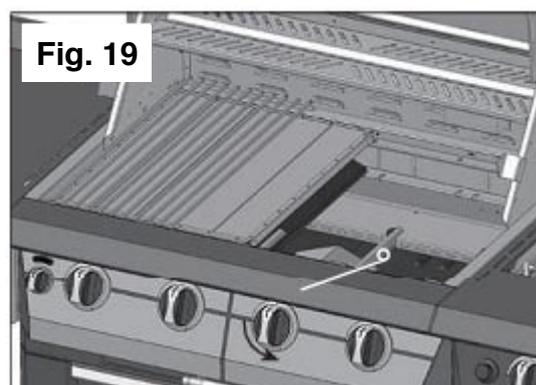

Fig. 19
**ATTENTION:** When turning the L.P. tank on, make sure to open the valve very **SLOWLY** two (2) complete turns to ensure proper gas flow.
4. Push and turn one of the control knobs counter-clockwise to the "HIGH" position and immediately press the electronic igniter button. You will hear a snapping sound. It may be necessary to hold the electronic starter button for about 4 seconds. (See Fig. 19)